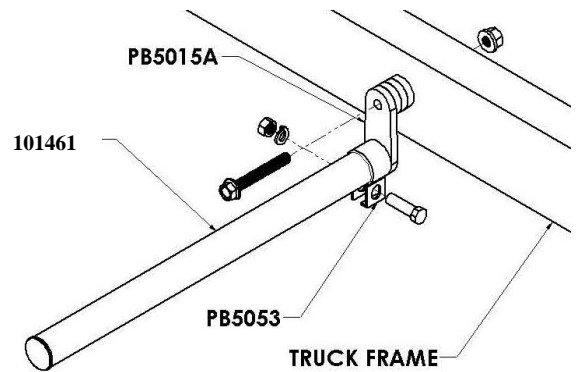

Figure 10
- A. Once the brackets are placed in position with the fender, securely tighten the 5/8" x 4-1/2" bolts that go through the PB5015 steel swivel to attach the swivel securely to the frame (Figure 10). **Recommended torque is 160-170 ft-lbs.**